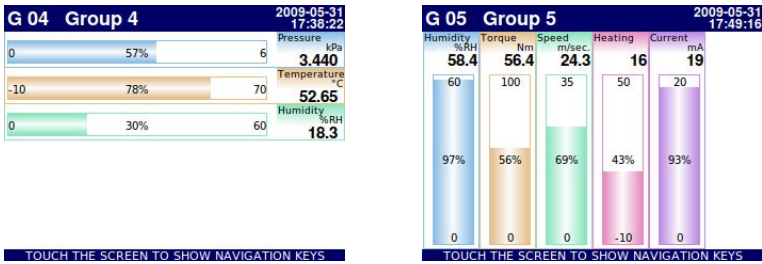

Fig. 6.7. Examples of **Horizontal** (for 3 channels) and **Vertical Bars** (for 5 channels)
- as horizontal bars Fig. 6.7
- as vertical bars Fig. 6.7